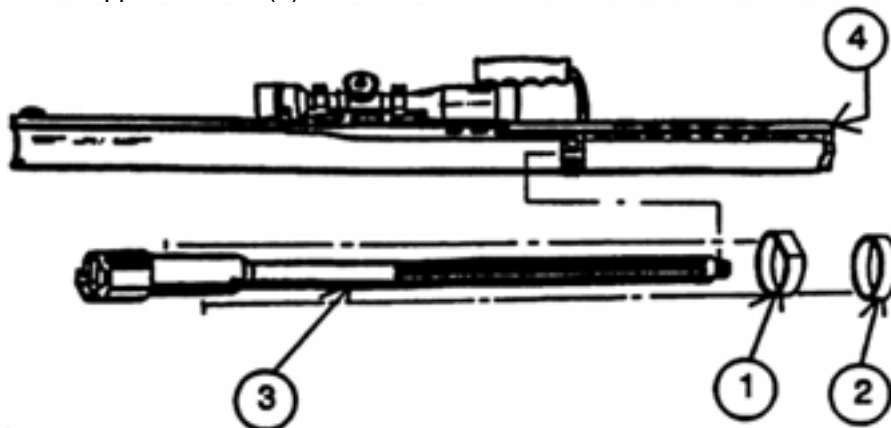

Figure 2-29. Installing Barrel Bumpers
- (2) Slide the battery barrel bumper (1), Figure 2-29, and impact barrel bumper (2) onto the barrel (3). Slide the barrel (3) into the upper receiver (4) from the rear.